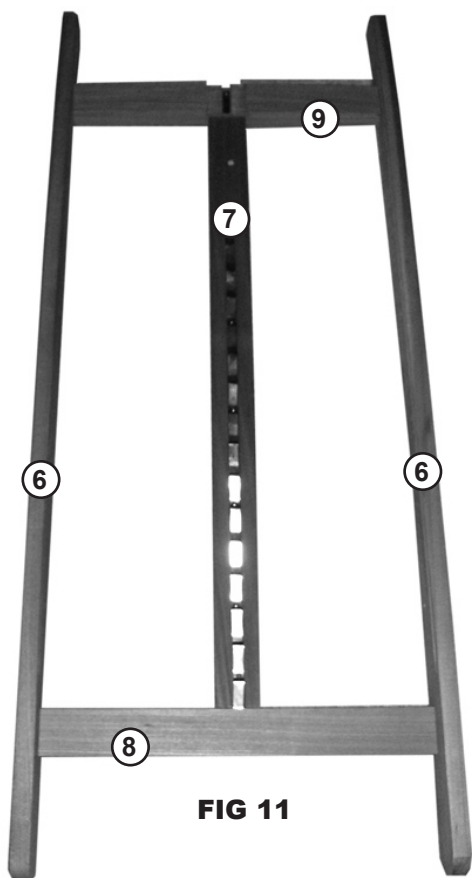

FIG 11
STEP 11. Your assembled H-Frame should look like FIG 11.